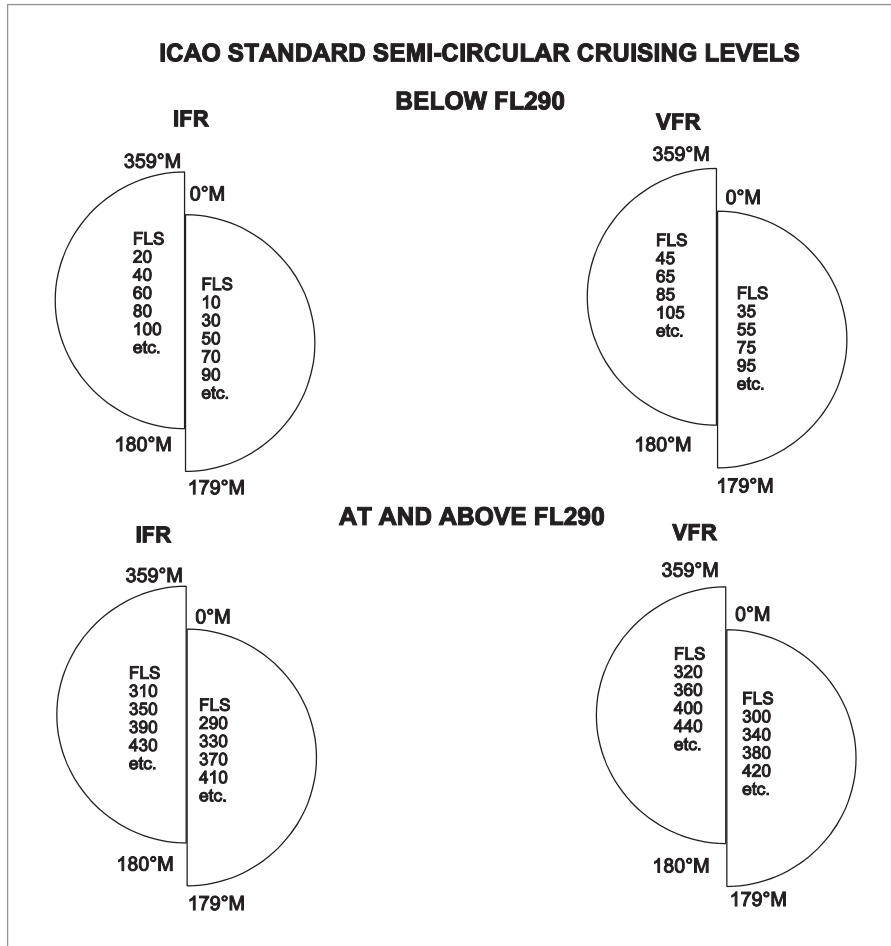

Figure 9.1 ICAO semi-circular cruising levels
- The ICAO Standard Semi-circular Cruising Levels. (See Figure 9.1)
(See Figure 9.1 and bottom of the chart)
The choice of safe Flight Level is determined by the aircraft's planned **Magnetic track** (not heading), stated obstacle clearance allowance and regional forecast route QNH. For VFR flight for SEP and MEP aircraft the **BELOW FL290 VFR** diagram, top right of Figure 9.1, is the reference. Flight Levels for a track between 0°M and 179°M are **odd levels plus 500 ft**; for tracks between 180°M and 359°M they are **even levels plus 500 ft**.